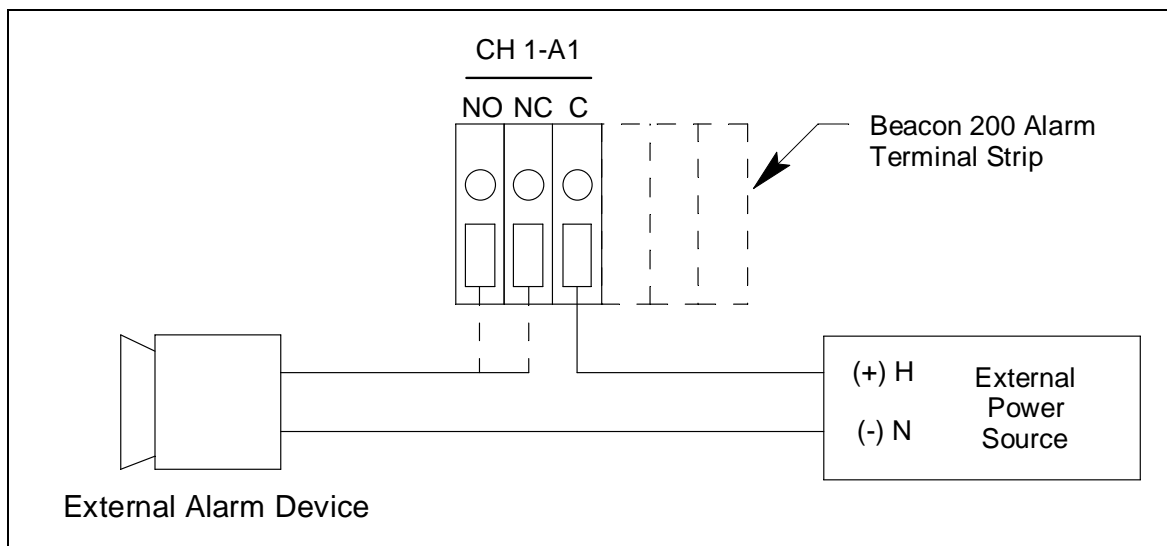

Figure 12. Typical External Alarm Wiring, Single Device
4. Connect the leads from the external alarm device and power to the alarm terminals as shown in Figure 12.